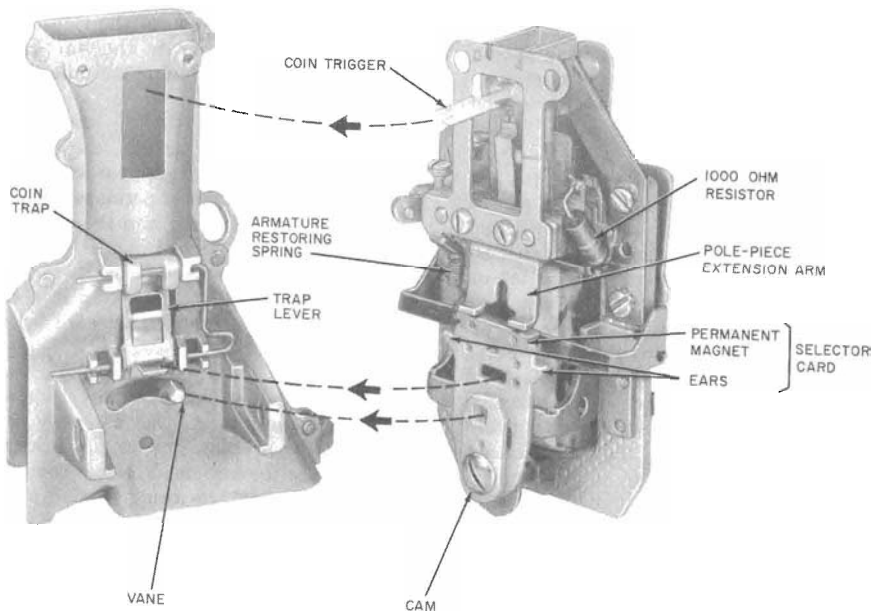

Fig. 28—Coin Hopper and Rear View of Coin Relay
**5.37** The single-coil coin relay (Fig. 15) consists of a nonpolarized armature and relay coil designed for fast operation and slow release. Collect and refund operation of the coin vane is controlled by a polarized selector card located at the back of the relay assembly as shown in Fig. 28. The selector card is made of nylon and has a small permanent magnet embedded along its upper edge.